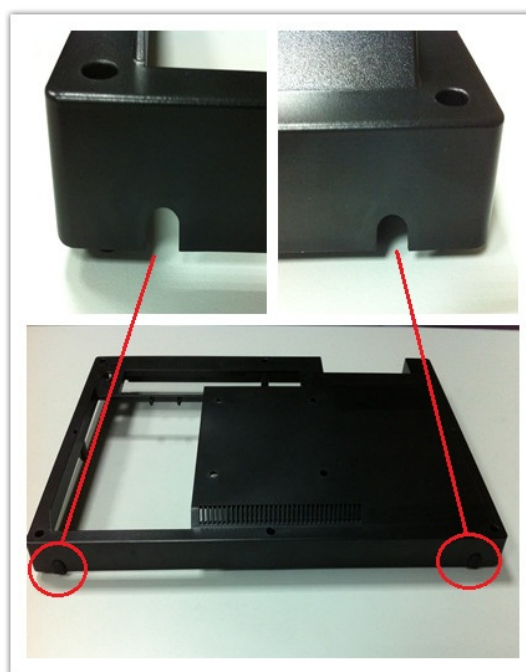

Figure 2.24
3. Remove the two plugs on the left and right sides of the rear cover (Figure 2.24).